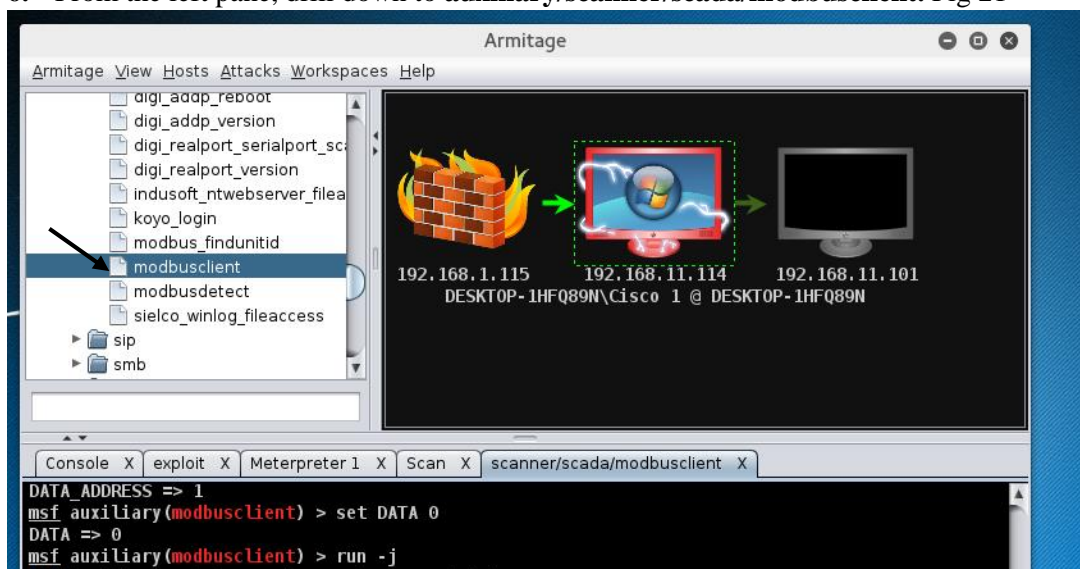

Fig 21
6. From the left pane, drill down to **auxiliary/scanner/scada/modbusclient**. Fig 21